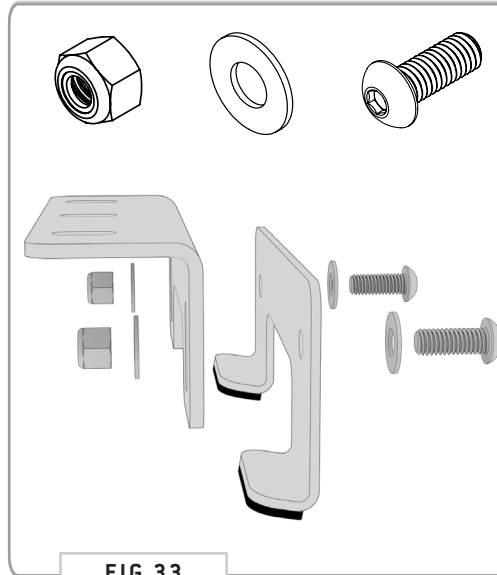

FIG 33
**12.1 Assemble Support Brackets:** Attach the **Passenger** and **Driver Side Support Brackets** to the **Support Foot Brackets** (FIG 33) using (2ea) 3/8-16 X 1 Button Head Hex Drive Screws, 3/8 Screw Flat Washers and 3/8-16 Nylon Locknuts, leaving the hardware loose enough to slide the two pieces for adjustment.